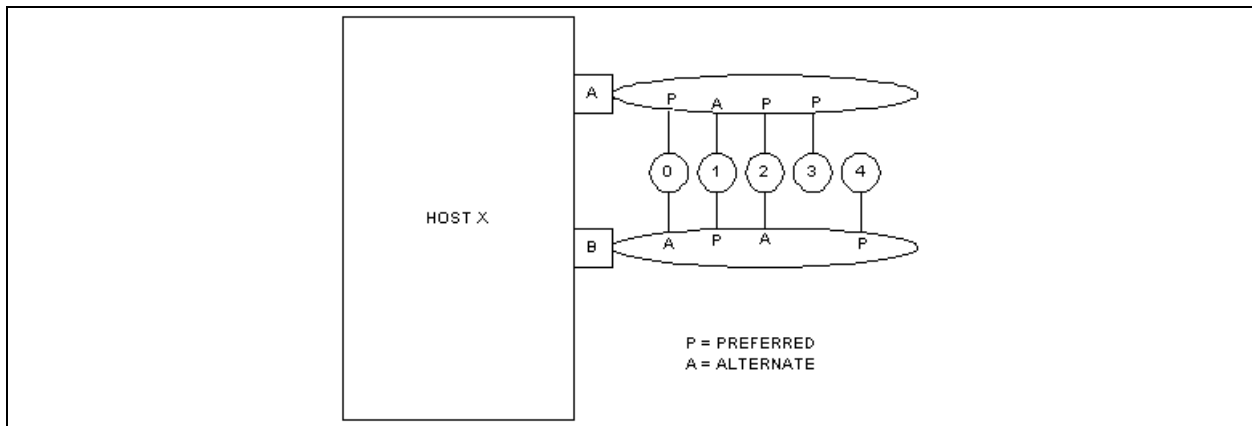

Figure 2-2. Simple Failover Configuration
Figure 2-2 shows a simple failover configuration consisting of one host (X), two HBAs (A and B), three dual-ported devices (0–2), and two single-ported devices (3–4).